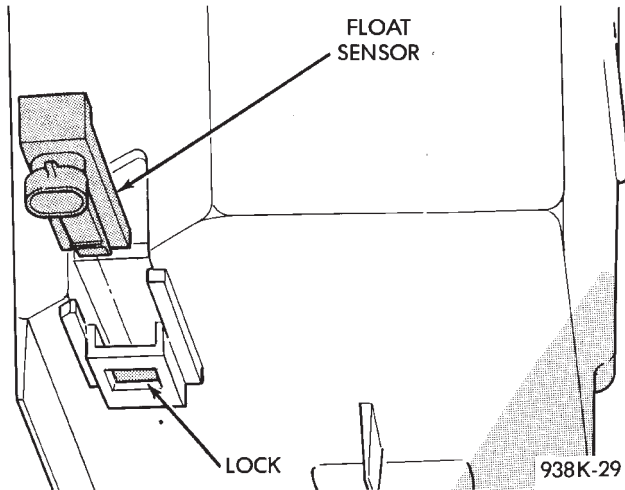

Fig. 24 Remote Sensor
- (1) Raise and support vehicle on safety stands.
- (2) Disconnect sensor wire connector.
- (3) Press up on the sensor lock and pull sensor out of housing. There will be no loss of fluid because there is no hole in housing (Fig. 24).